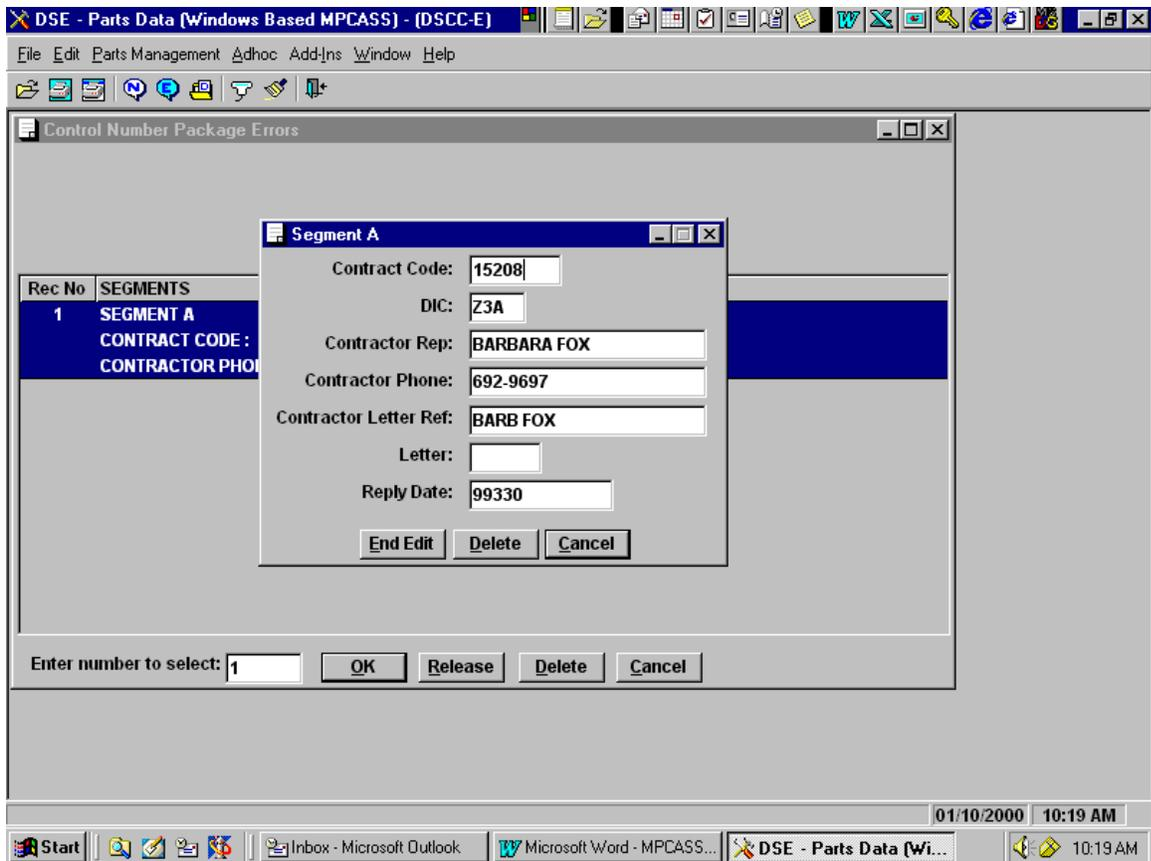

Figure 4.7.6c - SEGMENT WINDOW FOR EDITING BULK INPUT ERROR
c. Once record is selected, another window is displayed to do the edited. Move through the data element to be corrected. Make the necessary corrections, select END EDIT. See Figure 4.7.6c The corrected screen is displayed. Select RELEASE, the question DO YOU WANT TO UPLOAD THIS PACKAGE ANSWER Y OR N is displayed. If Y, record is deleted from data base and uploaded to the mainframe.